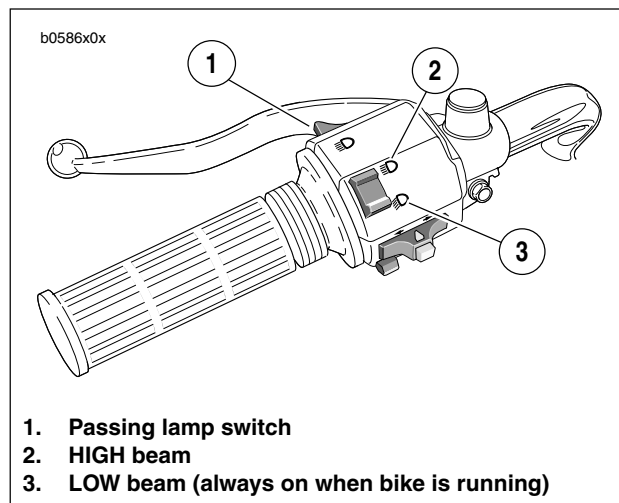

Figure 7-44. Headlight Controls
6. See Figure 7-44. Check headlight for proper operation. If operation fails, reread procedure and verify that all steps were performed.
- b. Check headlight LOW (3) and HIGH beam (2) settings.
- c. Set headlight to LOW beam. Press passing lamp switch (1). Headlight should flash HIGH beam for as long as the switch is pressed.